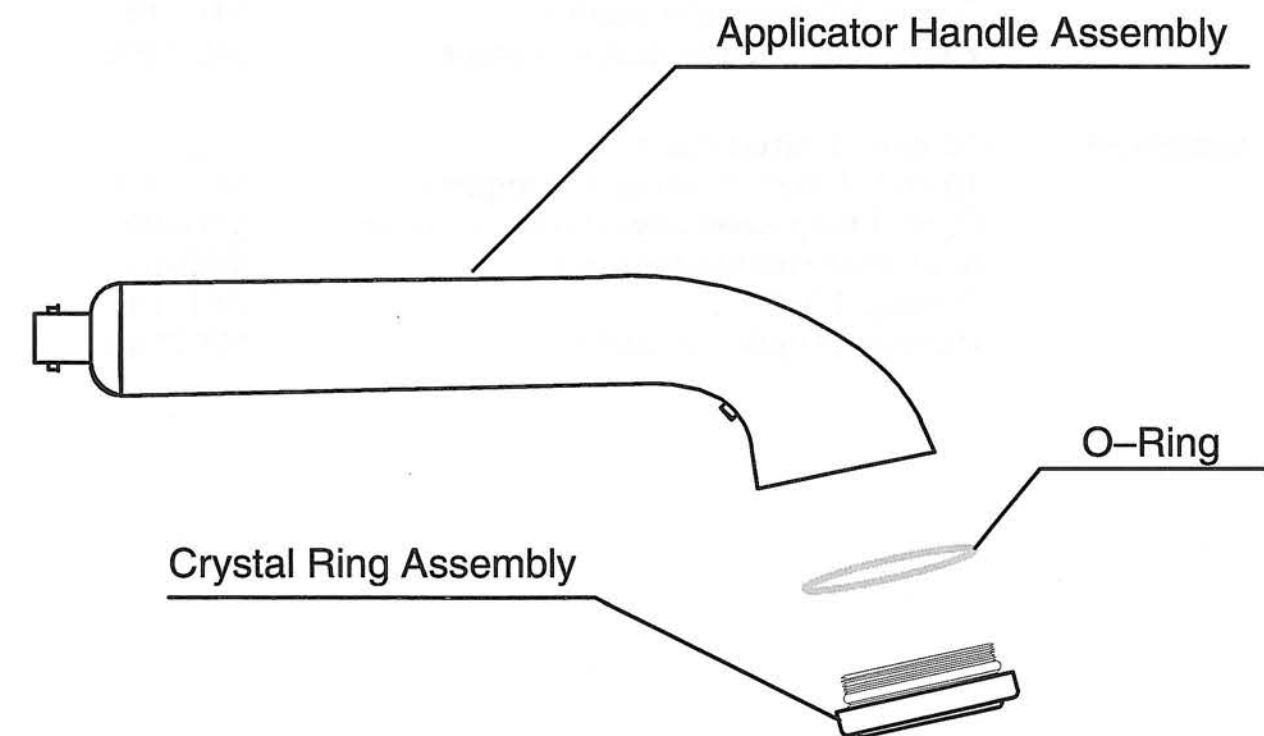

Figure B.1—Applicator Top Assembly
1. Figure B.1 shows the ME 7305 applicator top assembly. It is representative of the Sonicator 716 applicator.